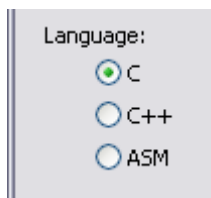

Figure 13. Programming language selection
11. The next window has the option to select the programming language to be used. The C language must be selected as Figure 13 illustrates.